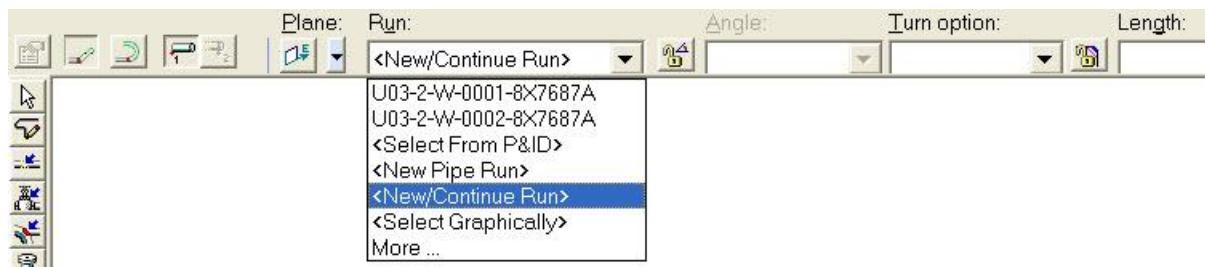

Figure 8. 28: Run Drop-Down List on the Route Pipe Ribbon
14. Change the following specifications in the **New Pipe Run** dialog box, as shown in Figure 8. 29, and click **OK**.